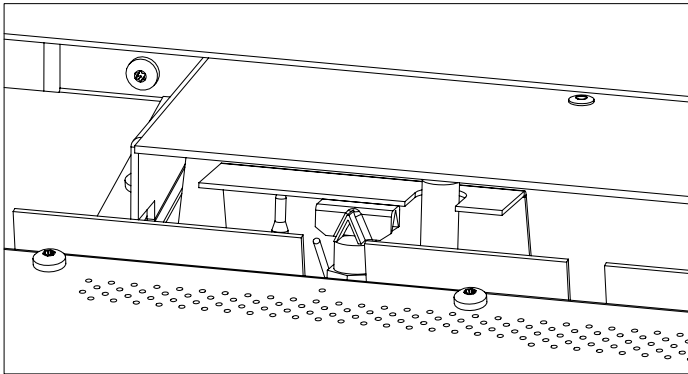

Figure 30: Pilot Orientation
4. Convert the existing pilot orifice using a 7/16 inch wrench. Loosen the pilot head and move the orifice slider to the opposite side. A red dot on the exposed side will indicate the pilot is set to LP. Retighten pilot, if head does not reach proper orientation in the snug position then contact your Enviro dealer (see Figure 30).